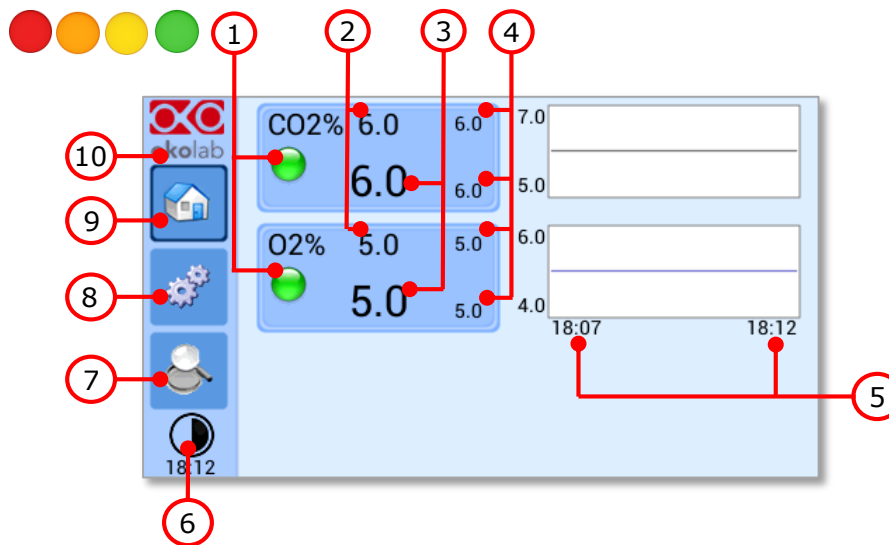
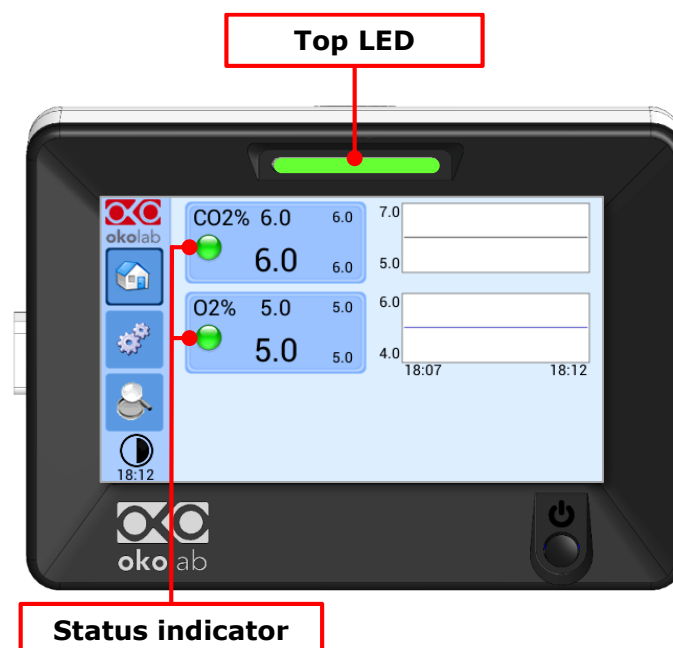

Figure 20. Homepage of CO2-O2-UNIT-BL [0-20; 1-95] Touch Screen Display.
Figure 23. Status Indicator and TOP LED.
11. Once the system has been initialized the Status LED on the front of CO2-O2-UNIT-BL [0-20; 1-95] will stop blinking and will turn steadily on. The Homepage will appear on the touch screen, the color of the Status Indicator (see 1 in Figure 20 and Figure 23) on the gas tab will be yellow at the start.
Tip ► After any change in the Setpoint value, CO₂-O₂-UNIT-BL [0-20; 1-95] enters into a transient regime, the Status Indicator and the TOP LED (see Figure 23) turn yellow (see paragraph 9.1.2). During the transient regime, CO₂-O₂-UNIT-BL [0-20; 1-95] will not trigger on alarm.
CO2-O2-UNIT-BL [0-20; 1-95] can assume four different status, which are represented by the colors assumed by the Status Indicator and by the TOP LED (see Figure 23):
Tip ► The TOP LED follows the same color code as the Status Indicator (see Figure 23). To enable/disable the TOP LED follow the instruction reported in paragraph 9.2.2.3.